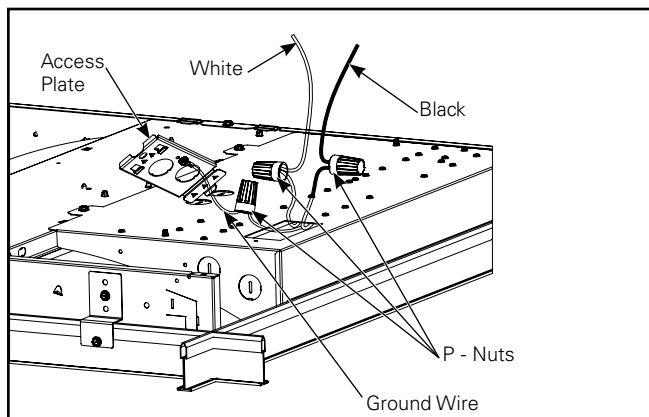

Figure 13.
- Using the open knockout bring in the supply line. Using provided P-nuts, connect black (line) wire to the black supply wire, white to the white supply wire, and connect ground wire to access plate using screw available in access plate. (Figure 13)